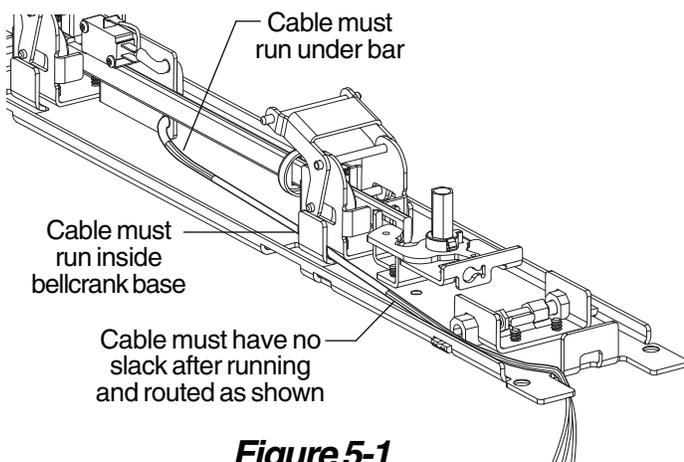

Figure 5-1
- 5** Route RX switch cable under connector bar and along base of device as shown (Figure 5-1).